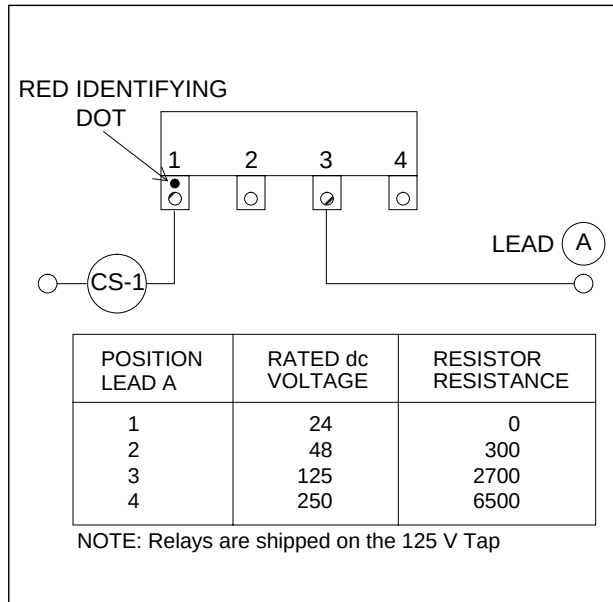

Figure 6. Selection of Proper Voltage Tap for Auxiliary Switch (CS-1) Operation.
Connect lead (A) to proper terminal per Figure 6. Block directional unit (D) and I contacts close and energize trip circuit with rated voltage. Contacts of auxiliary switch (CS-1) should make as indicated by a neon lamp in the contact circuit.